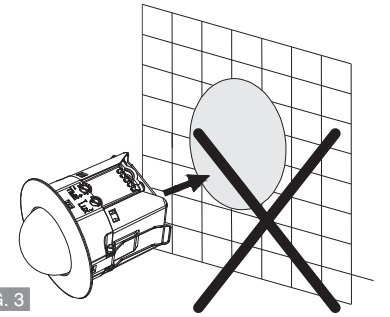

FIG. 3
- The unit is designed to be affixed false ceiling recess for indoor installation, not suitable for wall mounting (fig. 3).